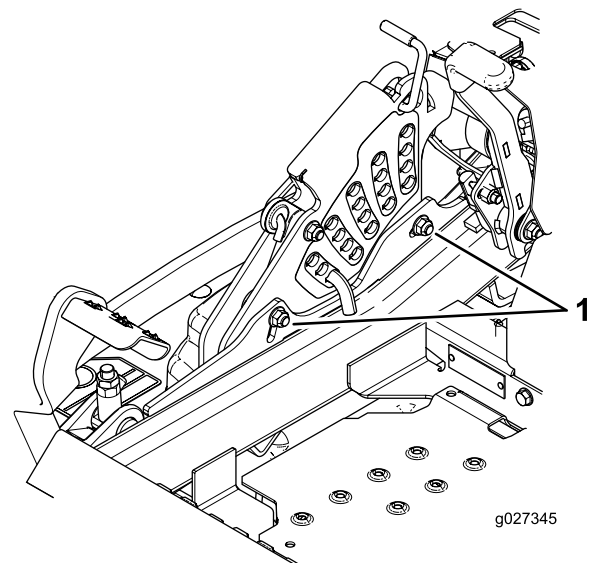

Figure 97
12. To adjust the single-point system, loosen the 2 bolts at the bottom of the height-of-cut plate (Figure 97).